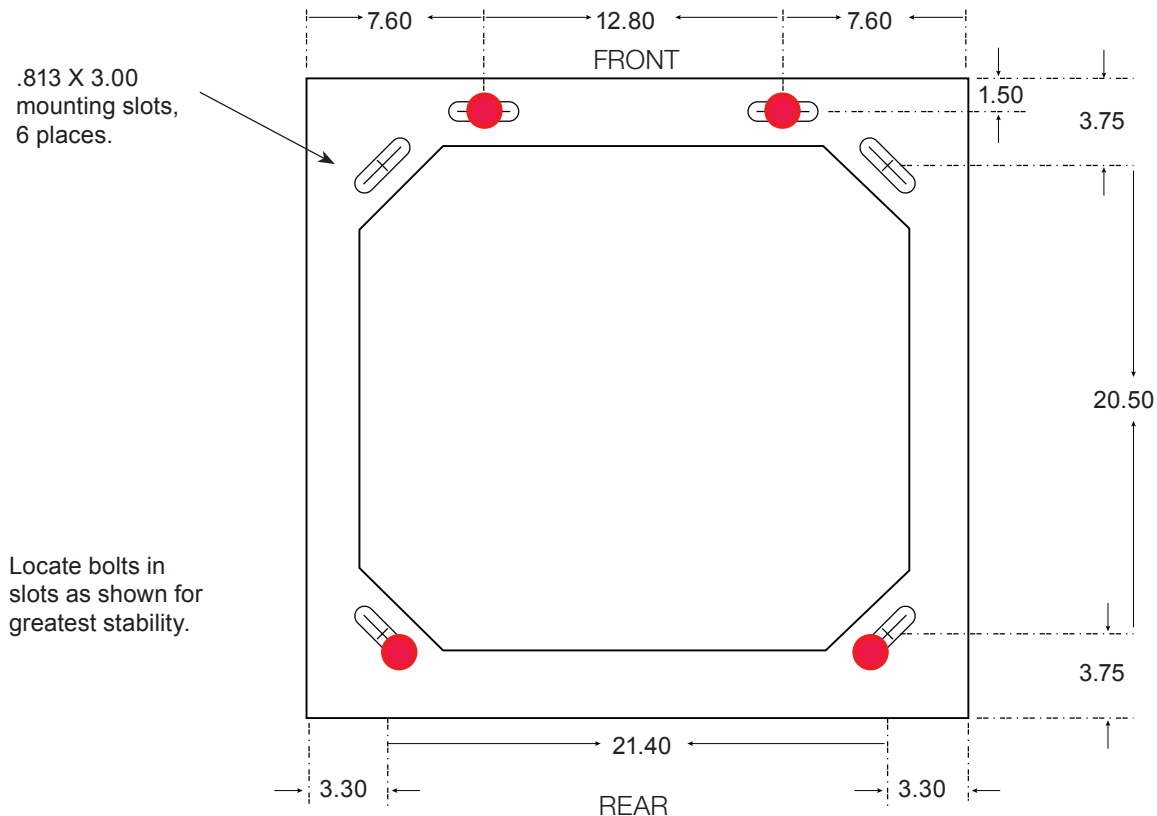

Figure 13 — Base dimensions and mounting holes (single bay)
Figure 13 shows the dimensions and bolt locations of a single bay. An anchoring kit is provided with hardware for the slots as well as the four additional bolt holes required for seismic.
3. Refer to Figure 13 and mark the anchor hole positions. This diagram also shows the preferred location for the anchor holes within the slots.